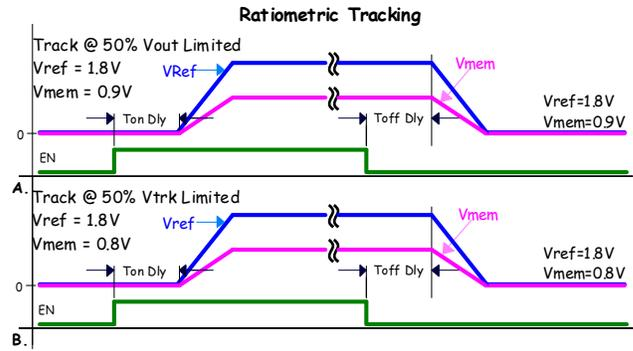

FIGURE 21. RATIOMETRIC TRACKING
- a. Track at 50% V_{OUT} limited. Member rail tracks the reference rail and stops when the member reaches 50% of the target voltage, Figure 21 (A).
- b. Track at 50% VTRK limited. Member rail tracks the reference at the instantaneous voltage value applied to the VTRK pin until the member rail reaches 50% of the reference rail voltage, or if the member is configured to less than 50% of the reference the member will achieve its configured target, Figure 21 (B).
Tracking Configuration Figure 21 (A)
Tracking Configuration Figure 21 (B)